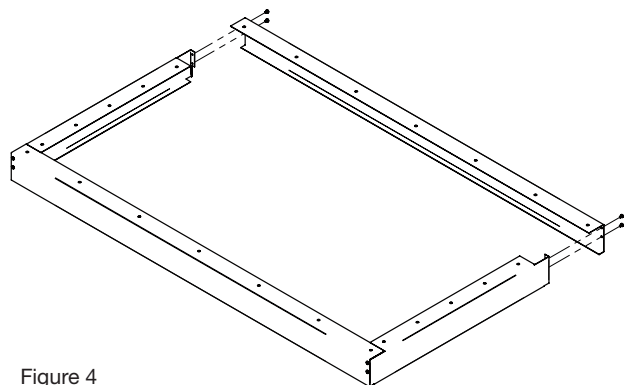

Figure 4
3. Attach the second side rail to the two end caps using the white screws (Fig. 4).